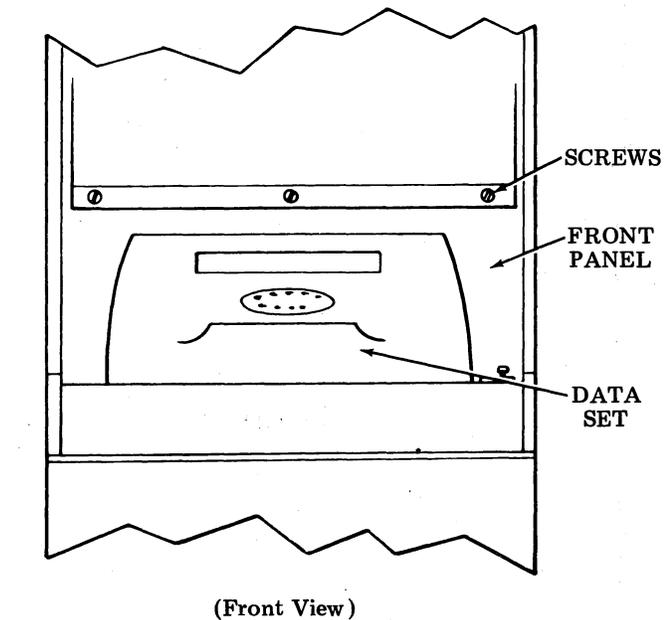

Figure 1 - Front Panel Installation
2.04 The installation of the data set is the same for the tape sender and the tape receiver. Refer to Figures 1 and 2 and to the instruction material supplied with the data set. The instructions under B apply to all data sets.
(c) Remove the three screws holding the front panel and remove the panel, see Figure 1.